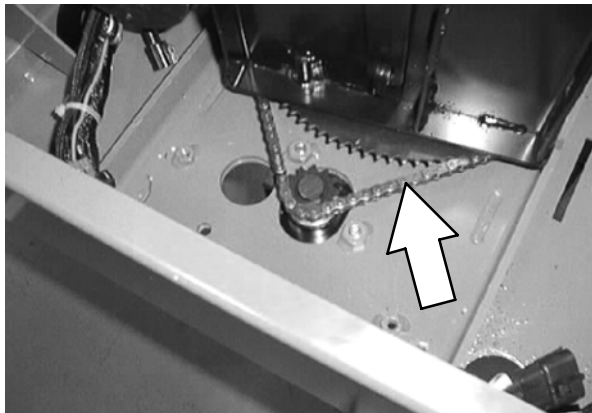

FIG. 2
3. Remove the master link from the steering chain and remove the steering chain from the machine. Refer to Fig. 2.